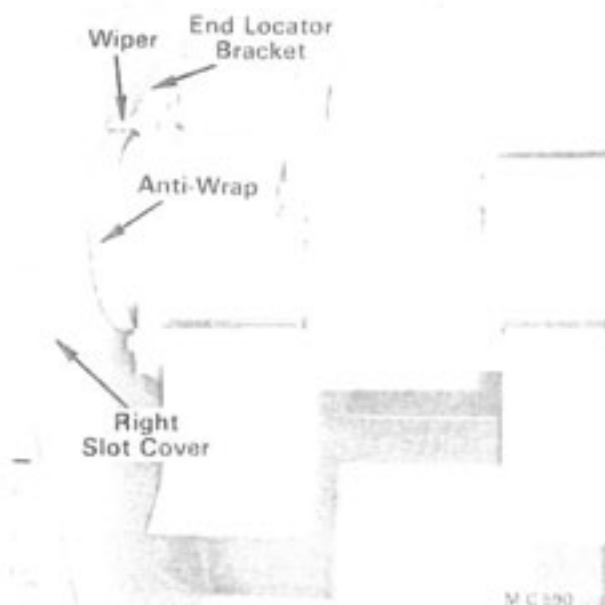

Figure 29 - Front View
5. Check the position of the two wipers (180° apart) at the end of the rotor, see Figure 29. They should be as close to the anti-wrap as possible without touching it. The wiper prevents material from building up on the anti-wrap. If necessary, loosen the wiper locknut and reposition the wiper in the adjusting slot.
7. Check the position of the two wipers (180° apart) at the end of the rotor see Figure 29. They should be as close to the anti-wrap as possible without touching it. The wiper prevents material from building up on the anti-wrap. If necessary, loosen the wiper locknut and reposition the wiper in the adjusting slot.